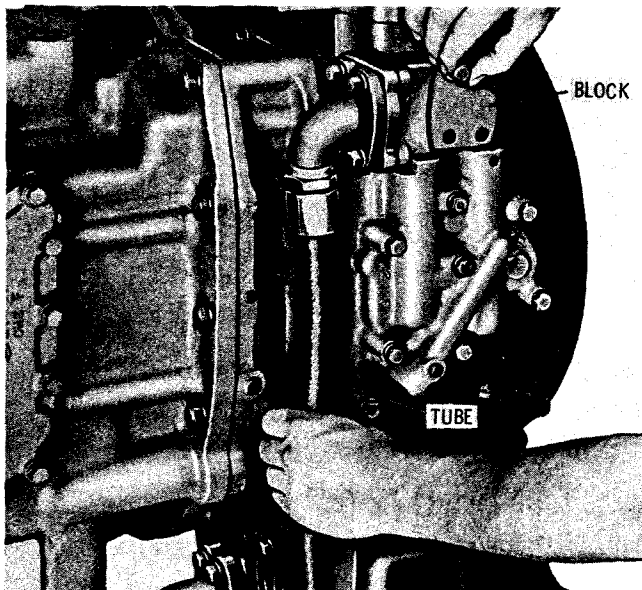

Fig. 7-101. Installing oil pump pressure tube S1738
(10) Install the connecting block with a sealing at the upper location on the converter housing. Secure the block with two 7/16-14 x 2-inch and two 7/16-14 x 2 1/4-inch bolts and lockwashers (fig. 7-101). Tighten the bolts to 42 to 50 pound feet torque.